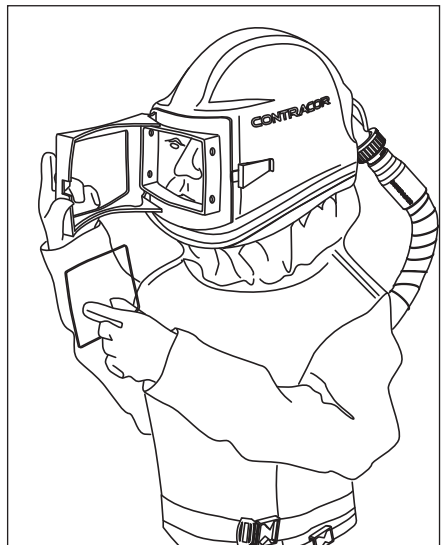

Fig. 3. Exchanging disposable window.
**Positioning the disposable windows:** After opening the window frame fit a disposable window (fig. 3).